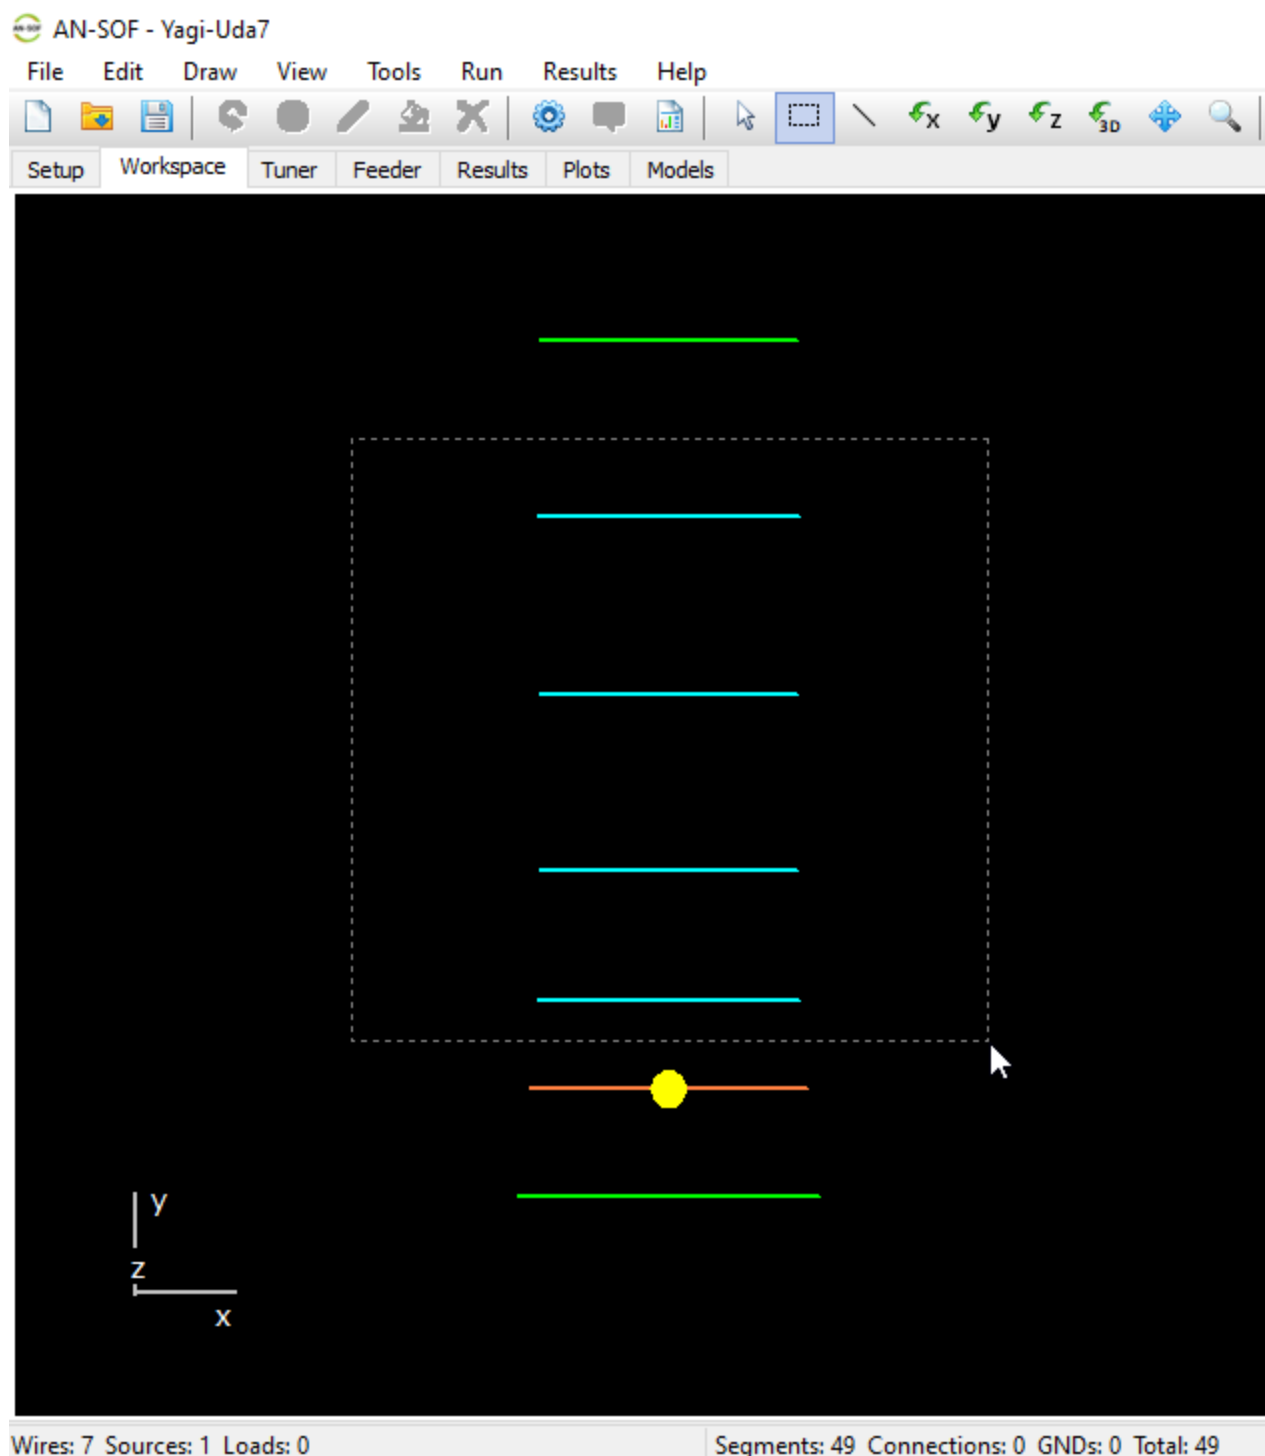

Fig. 1: Selection box for selecting a group of wires.
2. Left-click on the workspace and drag a box to select multiple wires (see Fig. 1).